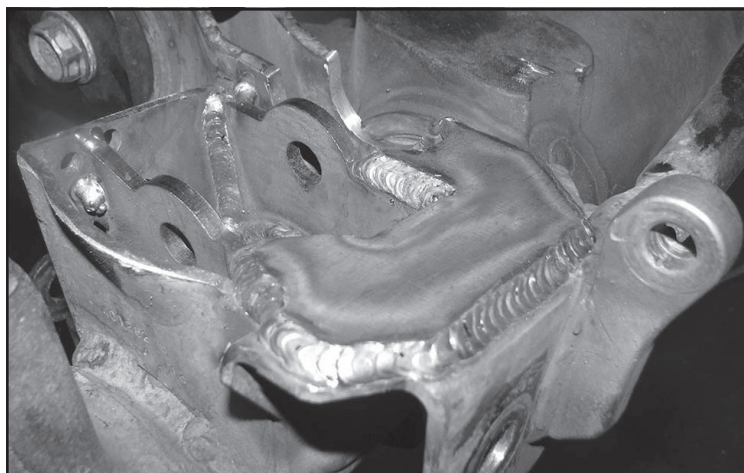

FIGURE 29 - STEP 17
17. Locate FT44387 (Passenger top gusset) and tack weld into place. **SEE FIGURE 29.** Next, weld the top gusset completely in, then paint all raw parts.